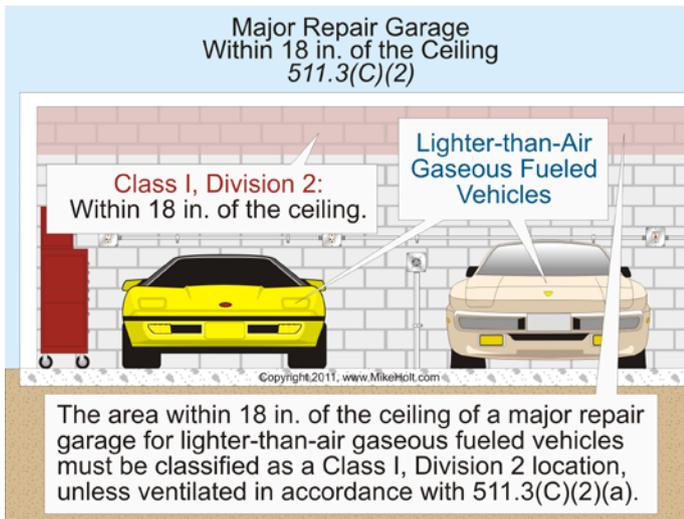

Figure 511-2
(2) Ceiling Areas. If vehicles fueled with natural gas or hydrogen are repaired or stored, the area within 18 in. of the ceiling is classified in accordance with (a) and (b). **Figure 511-2**